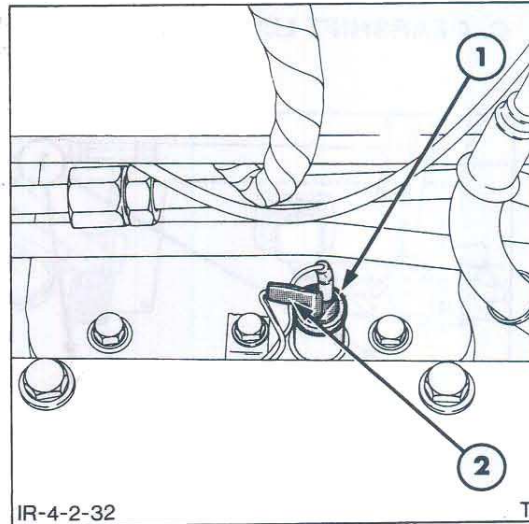

Figure 32
2. Remove the safety start switch from the transmission top cover, Figure 32, and then remove the switch plunger from the transmission housing.